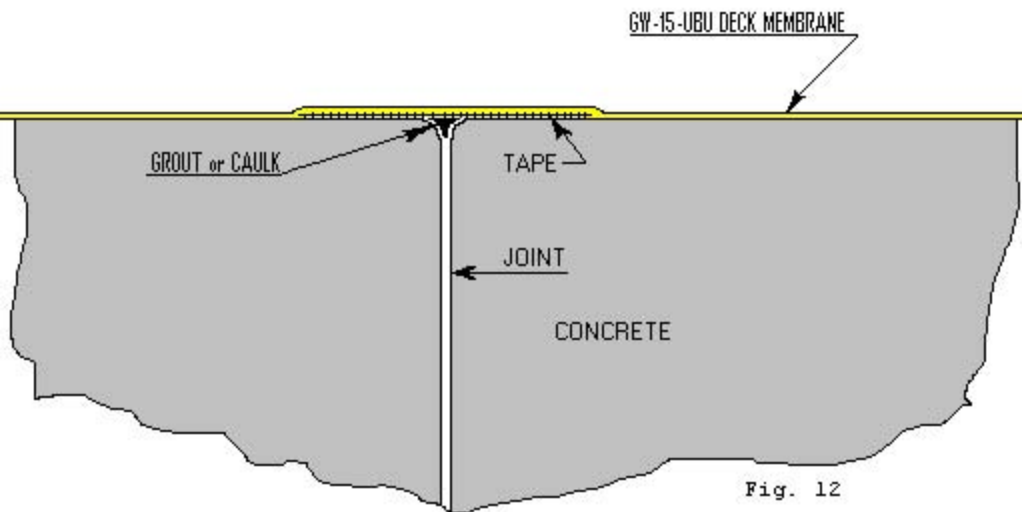
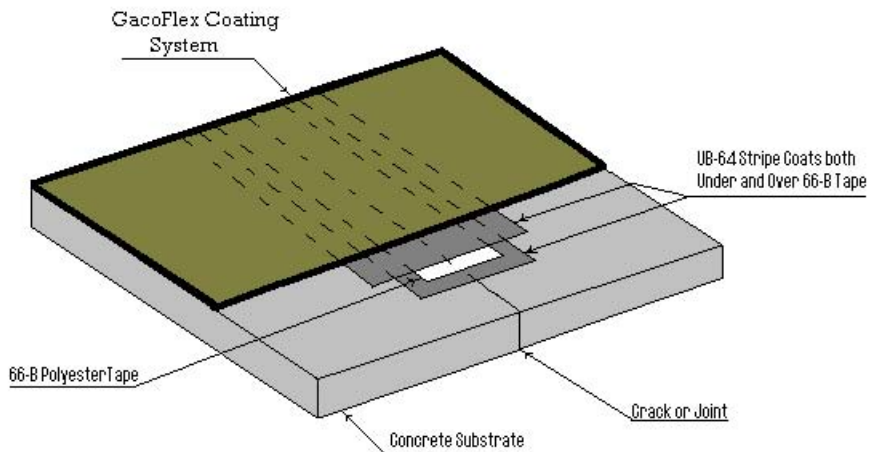

Fig. 12
FIG. 13
- (A) Old surface deck membrane coatings must be removed before a new deck membrane can be installed. A scarifier type machine is used to strip the coating from the deck. Several companies supply machines for this purpose. Body grinders are used for details at walls, drains and in other tight areas. In many metropolitan areas, contractors specializing in coating removal can be sub-contracted for deck preparation. After the coating is scarified, a light shot blast is used to provide the clean, firm concrete surface.
- (B) If the deck does not have an old coating membrane, oil soaked areas and traffic markings must be removed. Again, shot blasting is the best preparation method. Shot blasting also removes scaling concrete, laitance, and contaminants.
- (C) Remove curb chocks (tire stops) if possible. Some chocks are set on pins and can be removed. Some are bonded with an adhesive and can not be removed. Remove light and sign standards or pedestals if the base flanges are bolted to the deck and can be unbolted. Removal of these items allow for the waterproofing deck membrane to be continuous and installed under the flange.
- (D) Surfaces and joints need to be smooth and solid before any coating application. BULL-NOSED (rounded edge) joints can be filled with a cement grout that has a polymer binder such as Gacocrete. (See: GW-15 Details, Fig. 12, 13 & 14). Repair spalled concrete at such areas as drain edges, curbs and expansion joints, again with a cement grout that has a polymer binder.
- (E) Large depressions or spalled area can be filled with a cement-polymer mixture. The filler material must be approved by the manufacturer for compressive strength suitable for auto traffic.
- (F) Power wire brush or grind rusted metal surfaces to remove loose rust.
- (B) **TAPE:** GacoFlex 66-B polyester tape is used to span random concrete cracks, cold joints and control joints. Bullnosed joints are filled with a cementitious grout or polyurethane caulk to provide support for 66-B tape. (See: GW-15 Details, Fig. 12). The 66-B tape is used on random cracks and cold joints that are expected to have moderate structural movement. (See: GW-15 Details, Fig. 13). On concrete that is rough after the primer-sealer application, grinding smooth will assist in laying the 66-B tape flat and in contact with the concrete. On moderately rough or undulating concrete surfaces, GacoFlex 66-S tape can be used which is easier to fit to the concrete surface. The joints between metal set in the concrete such as drains, grates, or expansion joints are taped with 66-B tape. Tape is also used to form a corner flashing between the deck and walls or curbs.
- (C) **NEOPRENE SHEET:** NF-621 neoprene sheet is used where structural movement at joints is expected to be 1/16 inch or greater. GacoFlex N-1207 neoprene adhesive is stirred to suspend any "whitish" residue at the bottom of the container. The N-1207 adhesive is applied by brush or roller to both the primed concrete and the NF-621 neoprene sheet at the rate of 10 mils wet film thickness or 140 square feet per gallon.